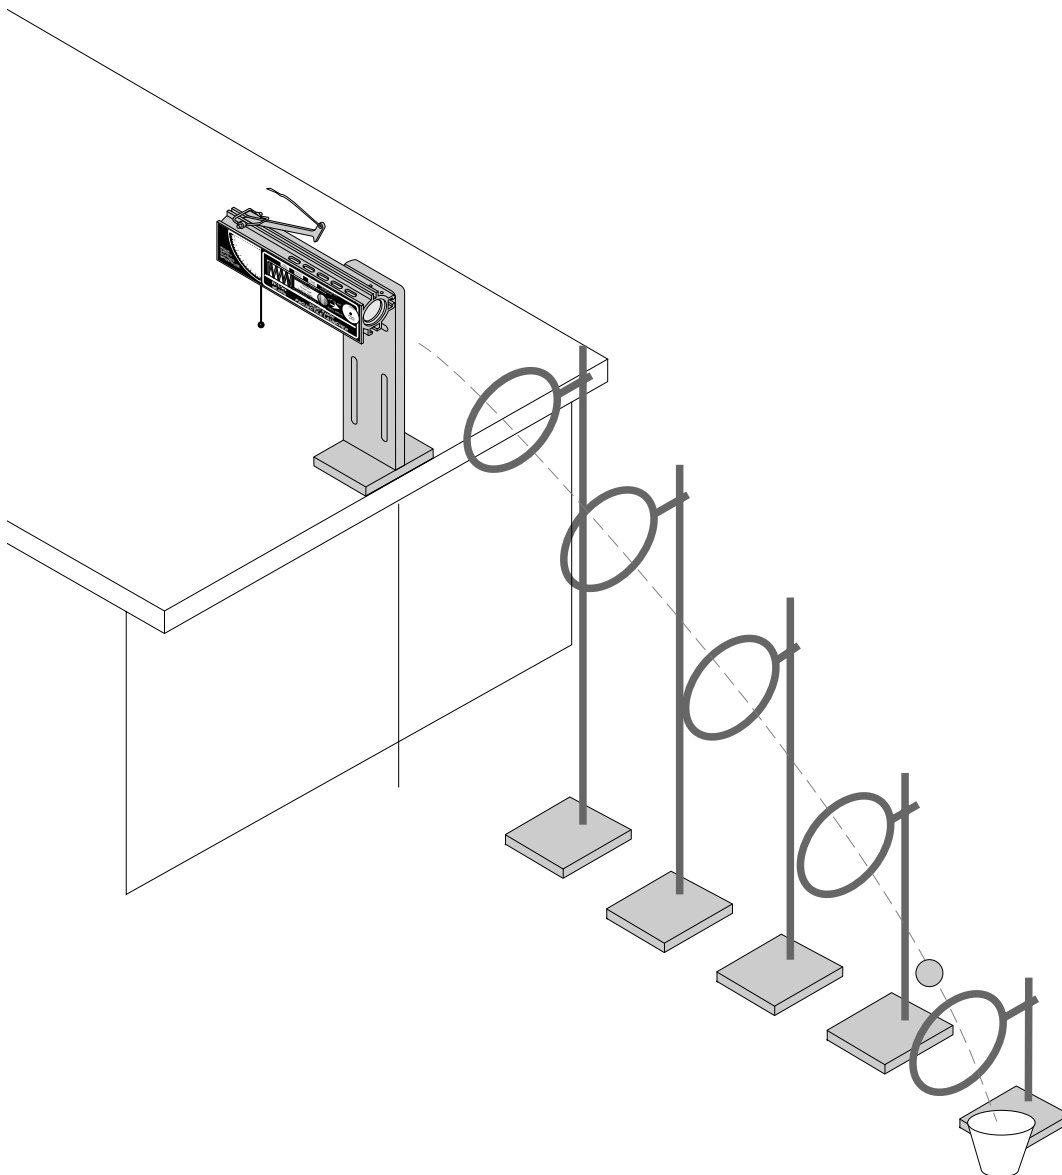

Figure 10.1 Placing the rings
Fire one shot to locate where the ball hits. Place an inverted box at that location so the ball will hit at the same level as the muzzle of the launcher. See Figure 10.1.
- ③ Lay the 2-meter stick on the floor in a straight line away from the Launcher. Remove the back mounting screw from the Launcher base so the back of the Launcher can be rotated upward. Look through the back of the Launcher and align the sights and the end of the 2m stick so the 2m stick is aligned with the path of the ball. Relevel the Launcher.
- ④ Measure off each set of  $x$  and  $y$  and place a ring clamp on a stand at each position (See Figure 10.1). If possible it is best to adjust the last two ring stands at an angle from the vertical so the ball will not have to pass through them at an oblique angle. A cup may be placed at the end of the path to catch the ball.
- ⑤ Shoot the ball through the rings.
- ⑥ Ask the class what shape of curve is formed by the rings.